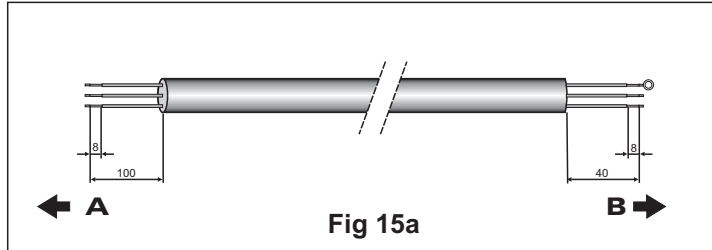

Fig 15a
2. Prepare the cable ends for the power input and for the cables between outdoor and indoor units as shown in figure 15a and 15b respectively.